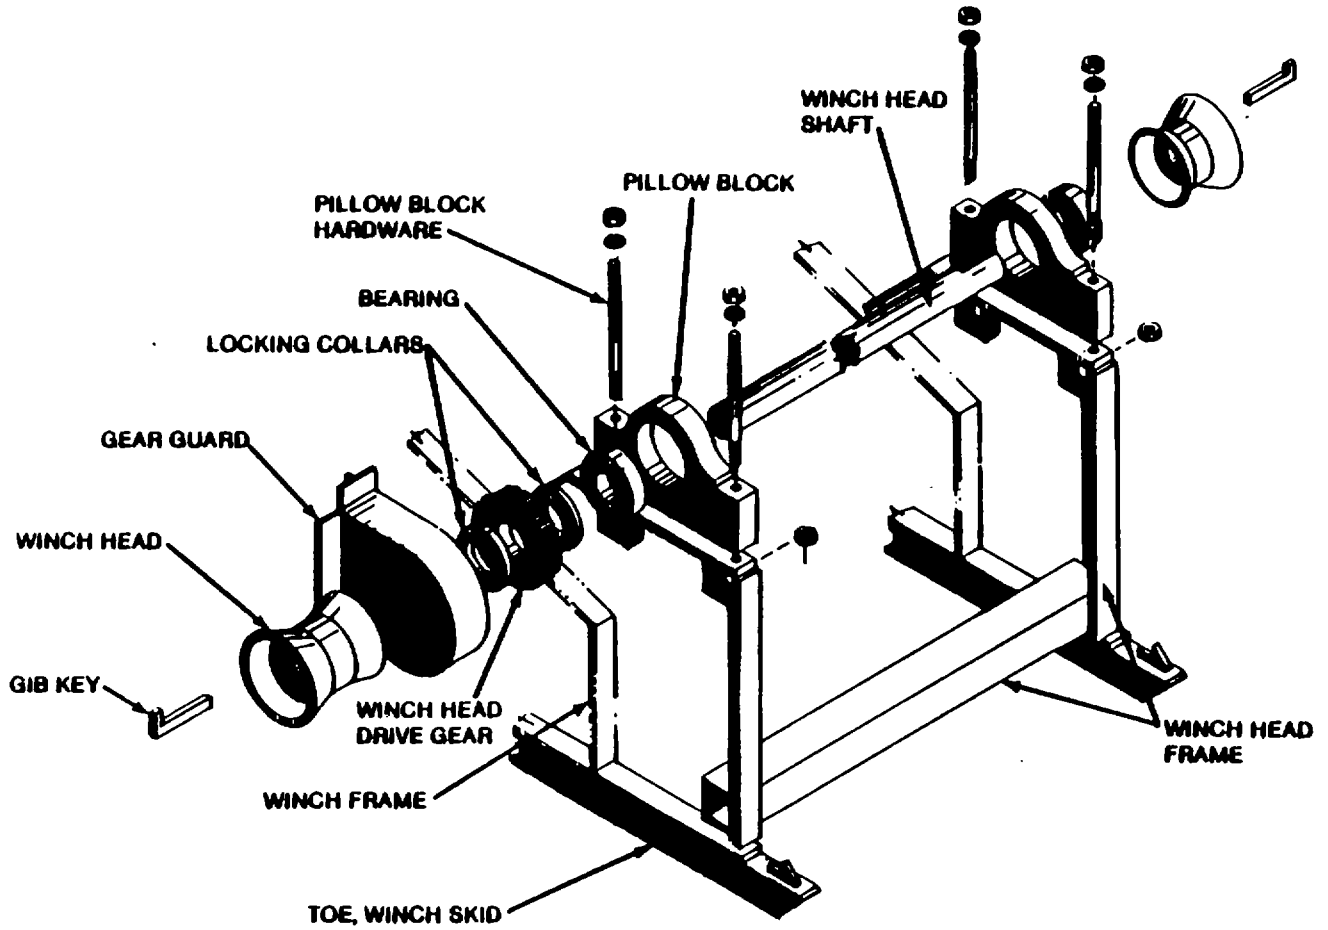

Figure 5-48. Winch Head Disassembly and Reassembly.
- a. Refer to Figure 5-48 and remove winch head gear guard.